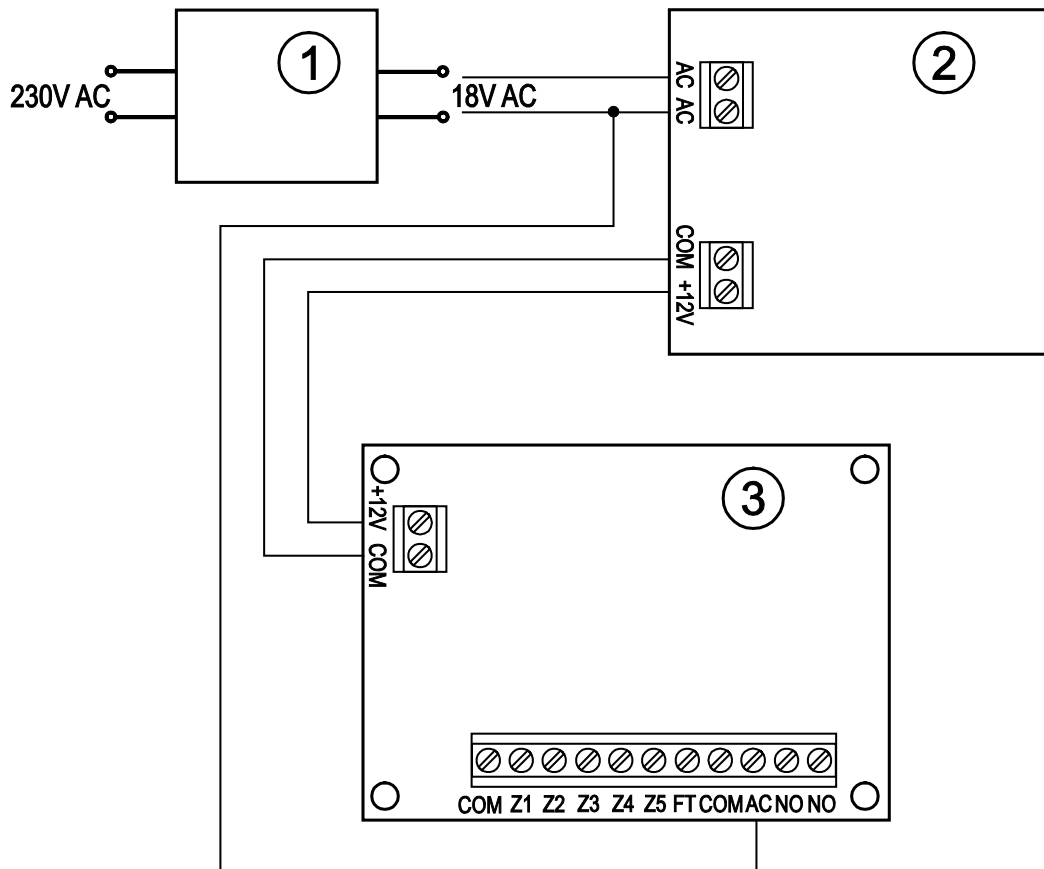

Fig. 4. Example of connecting power supply and testing AC voltage presence in GPRS-T2 module. 1 – transformer. 2 – power supply unit. 3 – GPRS-T2 module.
3. Connect the wire of transformer secondary winding, from which AC voltage is supplied, to the module power supply unit to the AC terminal (see Fig. 4).